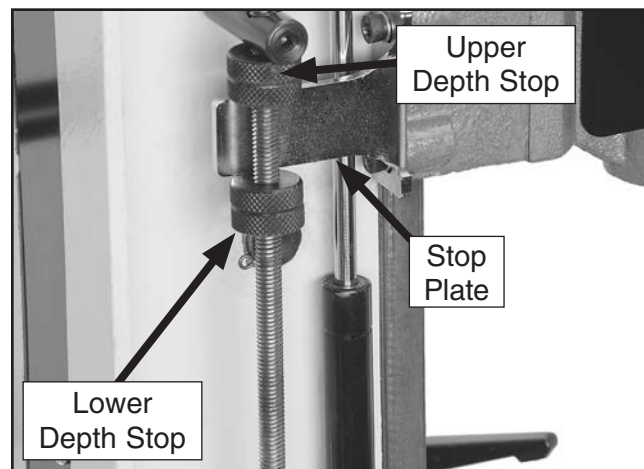

Figure 14. Depth stops controls.
2. Tighten the lower depth stop against the bottom of the stop plate as shown in **Figure 14**.